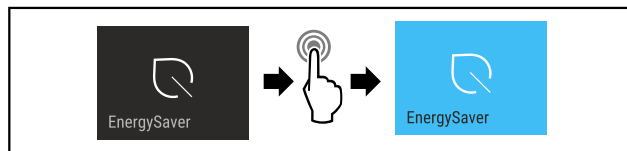

Fig. 14
- ▶ Complete the steps (see Fig. 14) .